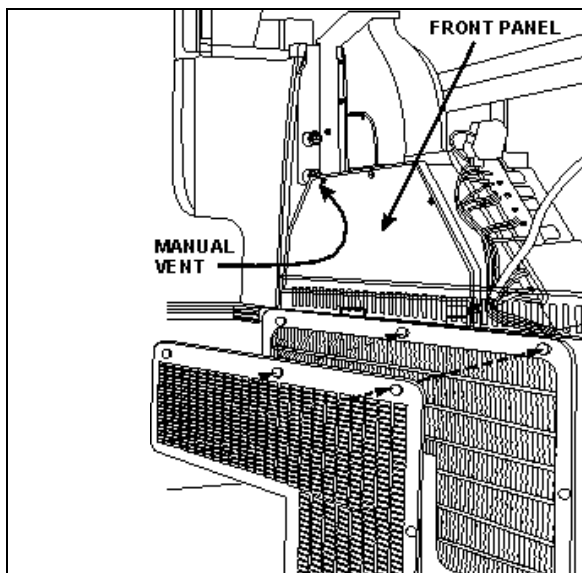
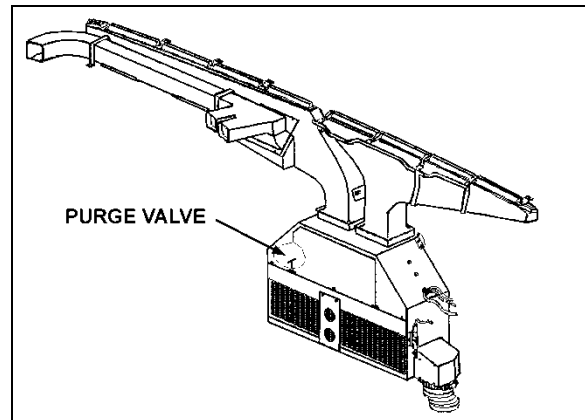
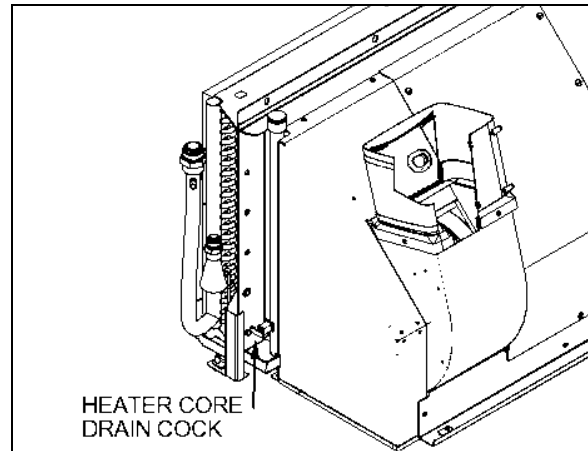

FIGURE 89: DRIVER'S HVAC/DEFROST UNIT
FIGURE 90: DRIVER UNIT AIR MIXING BOX
FIGURE 95: HEATER CORE DRAIN COCK LOCATION
Fresh air is taken from behind the R.H. side headlights assembly (H3 series) or from a plenum underneath the front service compartment (X3 Series) and enters the mixing box through a ON/OFF damper. Return air is taken through the right console into the mixing box (Figure 90). Mixed air goes through cooling and heating coils, fans and discharge ducts.
4. From inside of vehicle, remove the two finishing panels in front of unit. Remove the three screws fixing the unit front panel. Open the purge valve located inside the driver unit (Figure 90). If present, open the manual vent located inside the HVAC unit, on the driver's side (Figure 89) to ensure an efficient draining.
4. Open drain cock in bottom of heater core (Figure 95) you can unfasten a hose connection on top of heater core in order to allow air to enter while draining. The main heater core drain cock is located in the evaporator compartment. To access the valve, open baggage compartment door located in front of the evaporator compartment (L.H. side). Open the evaporator compartment access panel.
Whenever the heating system has been drained and refilled, or the system has run low on coolant and coolant has been added, it is necessary to bleed air from heating system. Locate the purge valve illustrated in Figure 90 & Figure 95, and open them momentarily until no air escapes from the lines. If present, open the manual vent located inside the HVAC unit, on the driver's side (Figure 89).